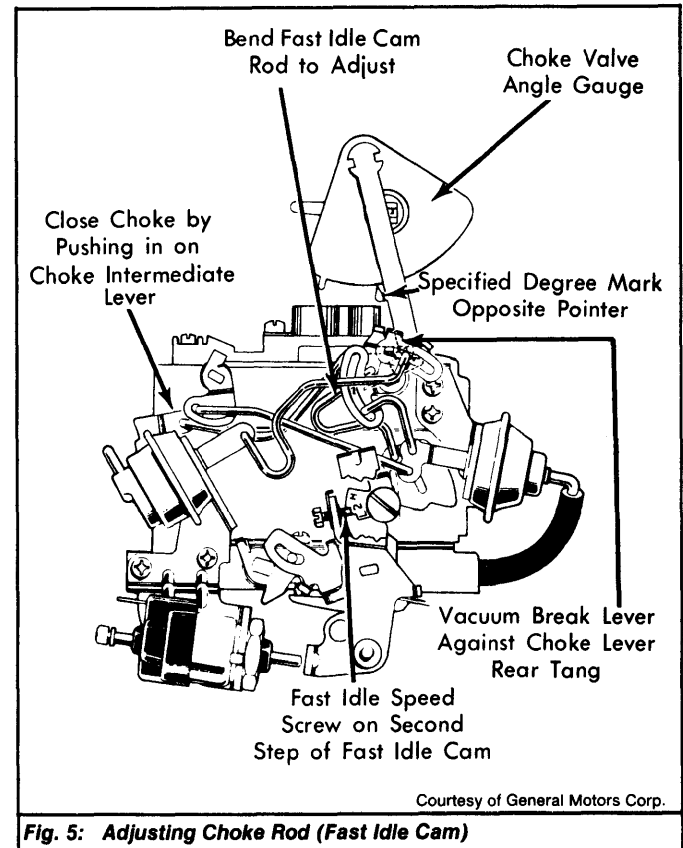

Fig. 5: Adjusting Choke Rod (Fast Idle Cam)
- 1) Place fast idle speed screw on second step of fast idle cam, against shoulder of highest step. See Fig. 5. Close choke valve by pushing on intermediate choke lever. Push vacuum break lever toward open choke until lever is against rear tang on choke lever.